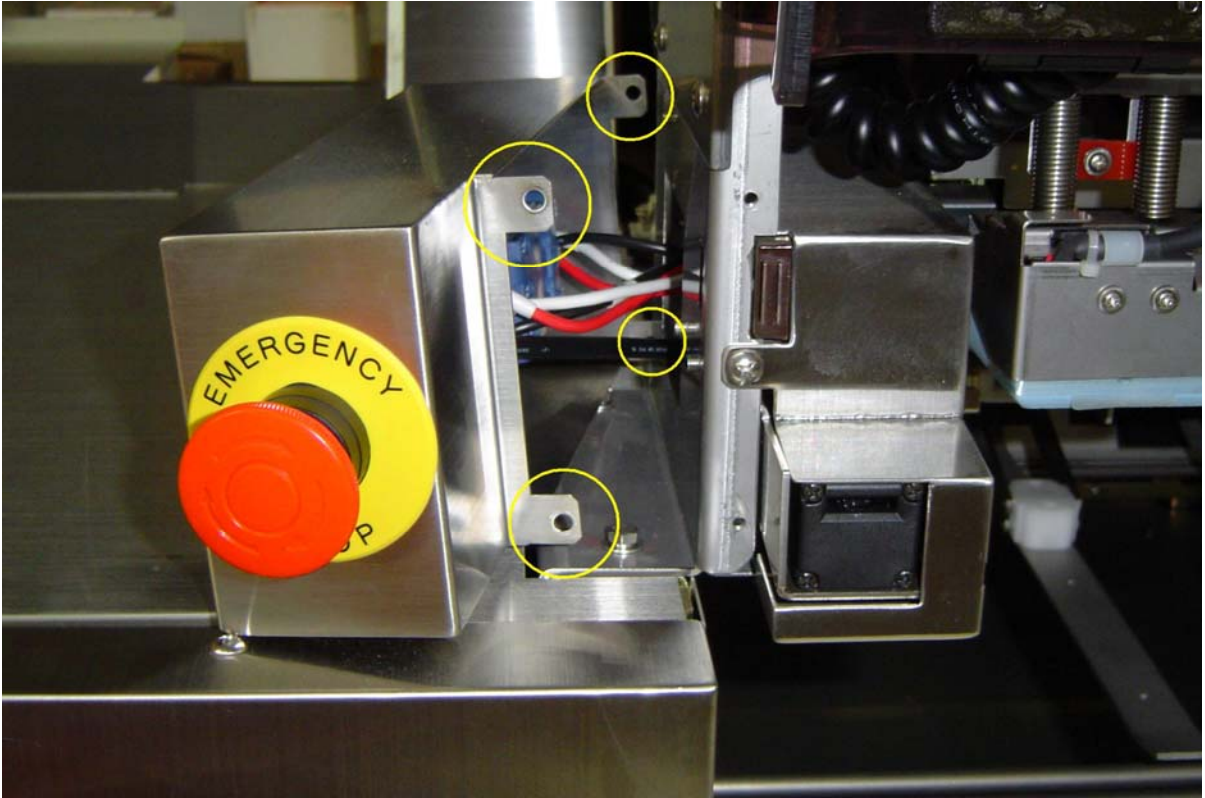

Figure 12. Emergency Stop switch housing -- four screws.
- b. Loosen Emergency Stop Switch housing -- 4 screws. **[See Figure 12]**